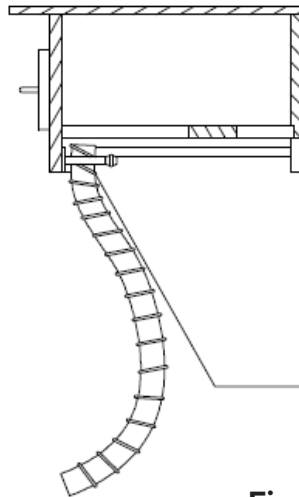
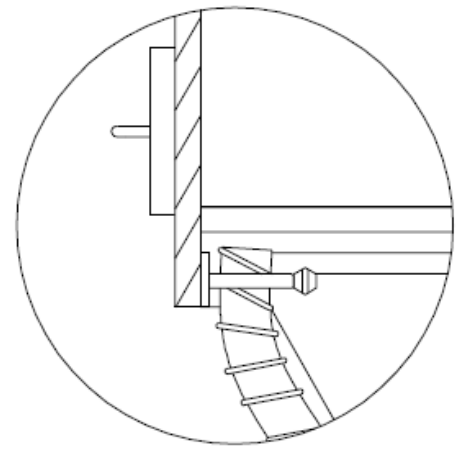

Fig 10.5
Fig 10.6
2. Once the Umbilical is held in place (Fig 10.5) tighten the locking screw on the Hose Clamp to secure the Umbilical (Fig 10.6).